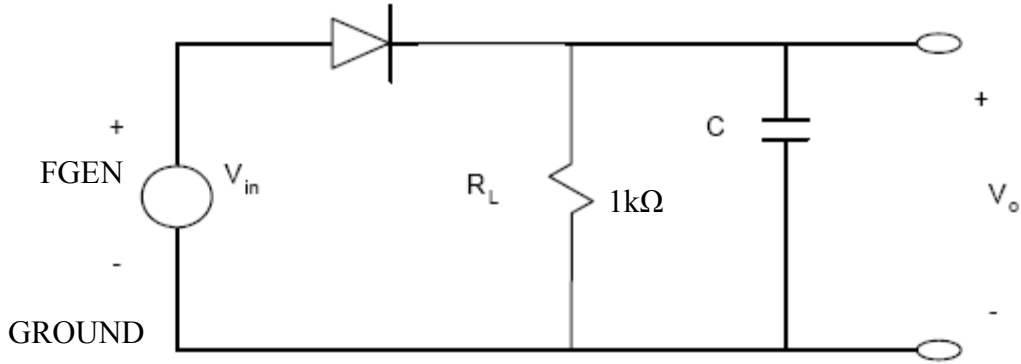
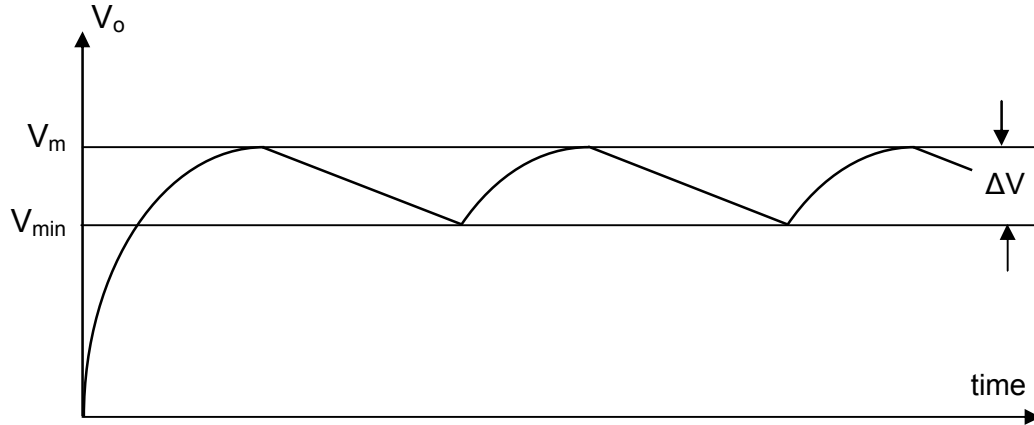

Figure 2.3: Rectifier circuit with an RC smoothing filter
Figure 2.4: Output wave shape from a full-wave filtered rectifier.
You should simulate the circuits shown in Figures 2.3 and 2.5 with the different resistor and capacitor values that you will use in the experiment. You should be prepared to compare your simulations with your measurements after you have built your circuits.
A popular smoothing filter is the capacitor-resistor filter, which consists of a single capacitor in parallel with the load resistor. Figure 2.3 shows such a filter connected to the output of a half-wave rectifier. The output wave shape of the filtered half-wave rectifier is similar to that shown in Figure 2.4, assuming that the time constant of the  $R_L C$  filter is comparable to the period of the input voltage.
Notice that the output wave shape still has ripple, but the ripple is now saw-tooth or triangular shaped, and its variation is much less than that of the unfiltered pulses. The difference between the maximum and minimum of the filtered voltage is known as the **Ripple Voltage** ( $V_r$ ). In Figure 2.4, this voltage is labeled  $\Delta V$ . Thus, we have
For a half-wave rectifier,  $f_p$  is the frequency of the input voltage. For a full-wave rectifier,  $f_p$  is twice the frequency of the input voltage. The output of the filtered voltage for a full-wave rectifier is shown in Figure 2.4.
From Figure 2.4, we see that  $\Delta V (=V_r)$  determines the amount of ripple in the output signal. From Equation (2.3), we see that for the ripple voltage  $V_r$  to be small, the  $R_L C$  time constant must be large. In other words, the ripple can be reduced by increasing the discharging time constant  $R_L C$ . Hence, increasing either  $C$  or  $R_L$  will reduce the ripple voltage. It should be noted that the resistor  $R_L$  is usually inside a commercial power supply and any external load connected to the power supply is in parallel with  $R_L$  and acts both to lower the total load resistance and to increase the ripple. This is why an audible hum is often heard from power supplies when the external load resistance drops to a very low value.
$V_r(\text{rms})$  is the RMS value of the ripple voltage. The value of  $V_r(\text{rms})$  can be calculated for various input wave shapes. For a complicated wave shape, such as that shown in Figure 2.4, the value of  $V_r(\text{rms})$  is calculated as if the filtered, rectified wave were a triangular wave, for which
The average (dc) voltage will lie between  $V_m$  and  $V_{\min}$ . Therefore, for the filtered, triangular wave shape shown in Figure 2.4, a better value of  $V_{dc}$  would be given by
1. Build the circuit shown in Figure 2.3 using the NI-ELVIS function generator (FGEN) as the voltage source  $V_{in}$ . The connections are FGEN (pin #33) and GROUND (either pin 49 or 53) on the left side of the NI-ELVIS breadboard. **Leave the capacitor C out of the circuit for now.** When adding or removing components, ALWAYS "STOP" THE ELVIS INSTRUMENTS AND TURN OFF THE PROTOTYPING BOARD.